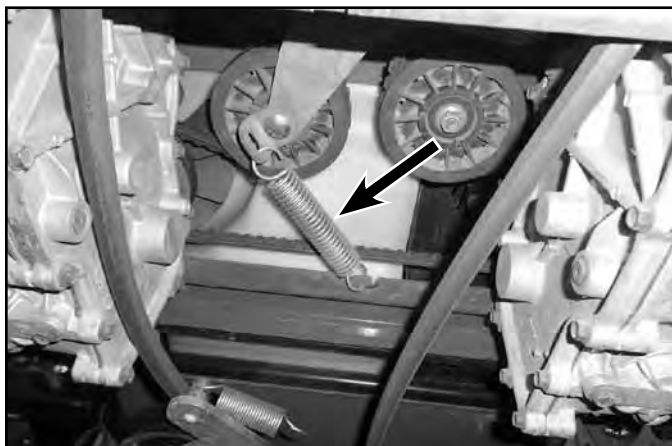

Fig. 078
8. Remove the drive belt tensioner spring (Fig. 078).